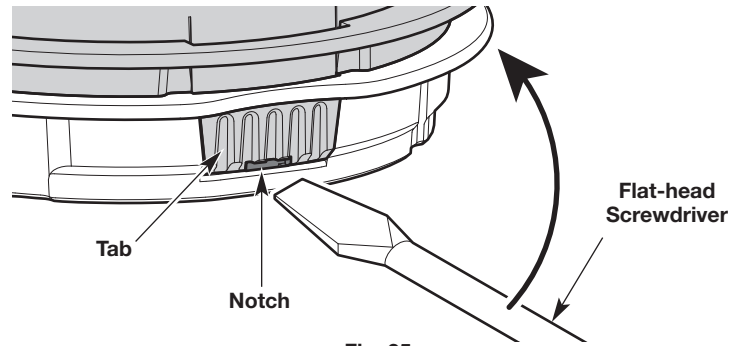

Fig. 25
- a. Insert a flat-head screwdriver into the notch on the tab (Fig. 25).
- b. Gently tilt the screwdriver up and hold it in place (Fig. 25).